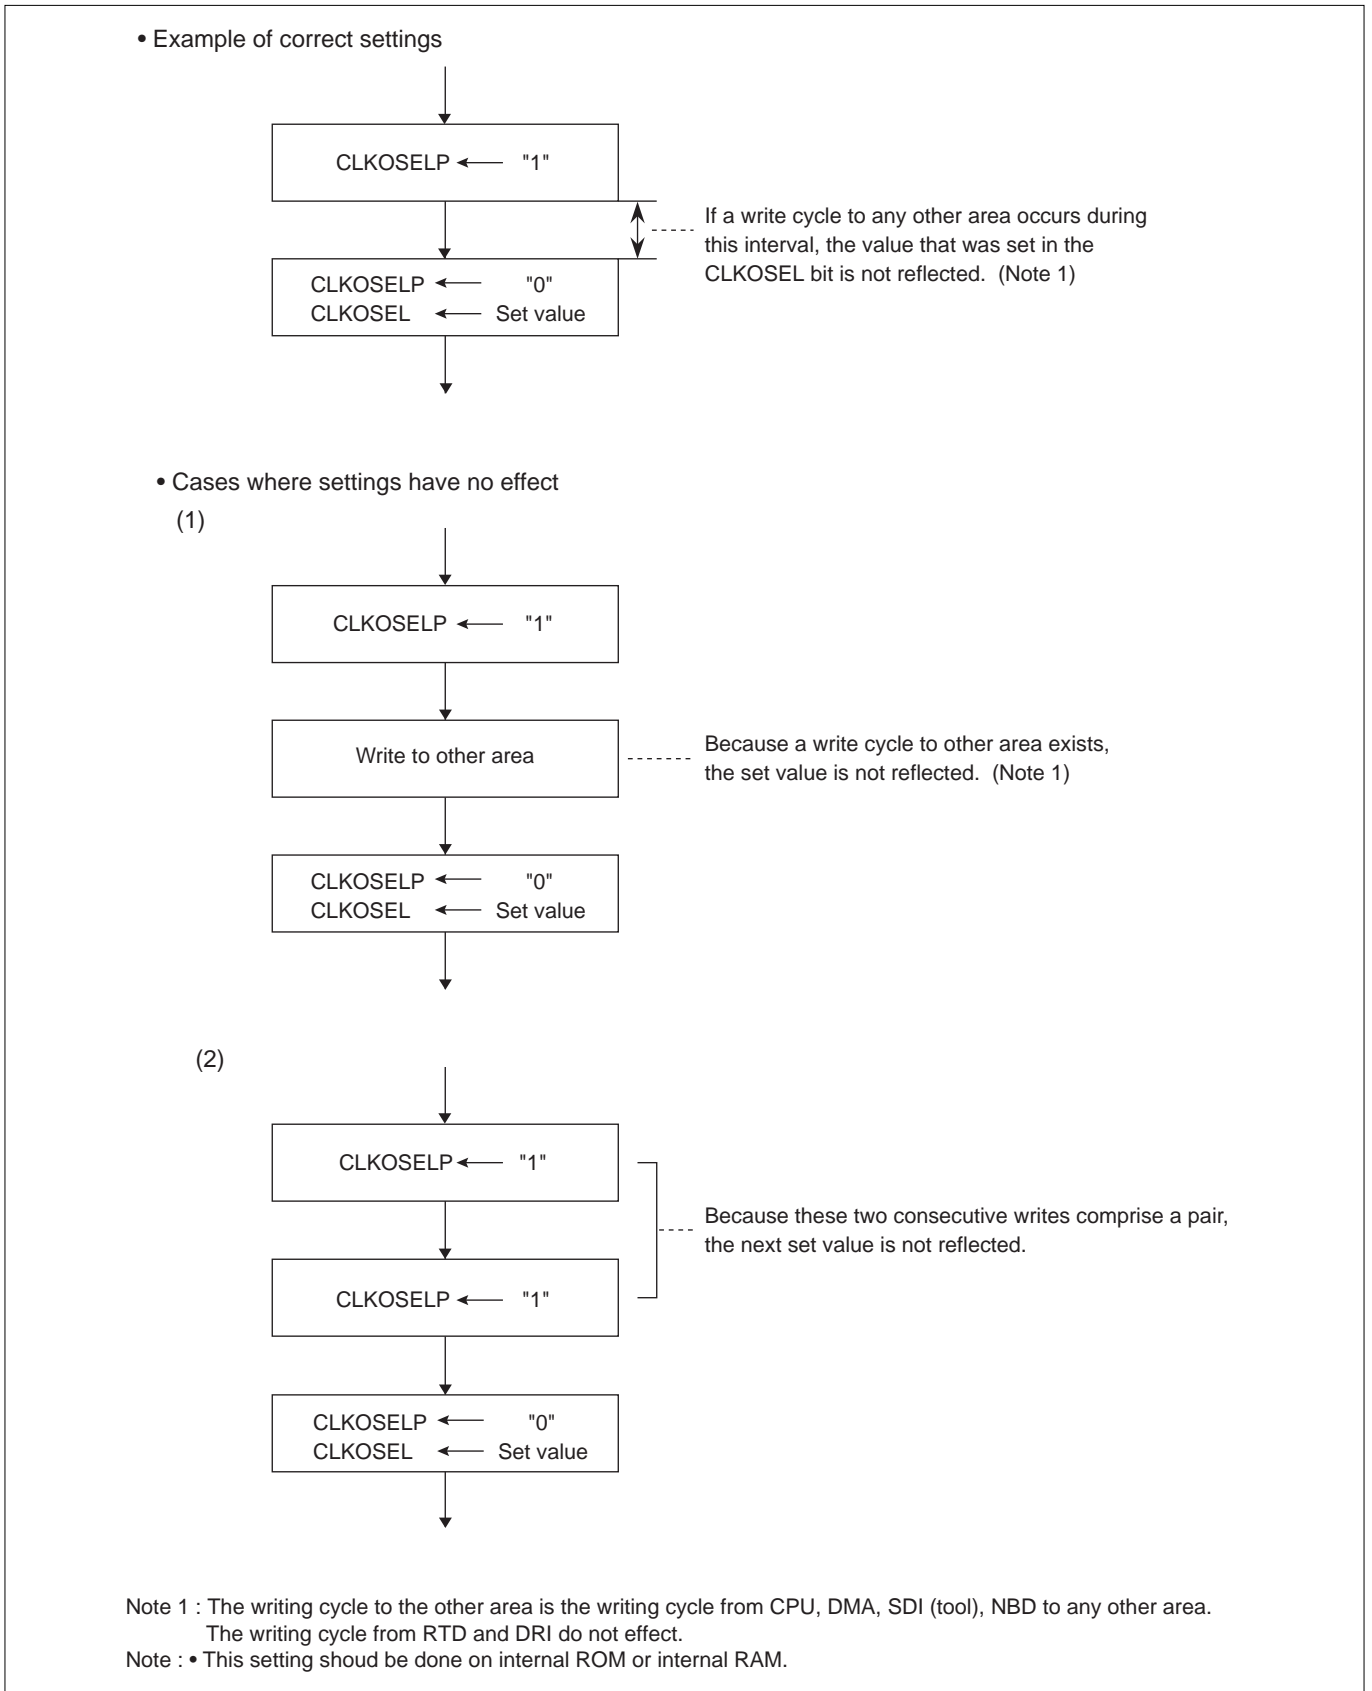

Figure 17.2.2 Setting procedure of CLKOSEL bit
2. Write "1" to the CLKOSEL write control bit (CLKOSELP). (See Figure 17.2.2.)